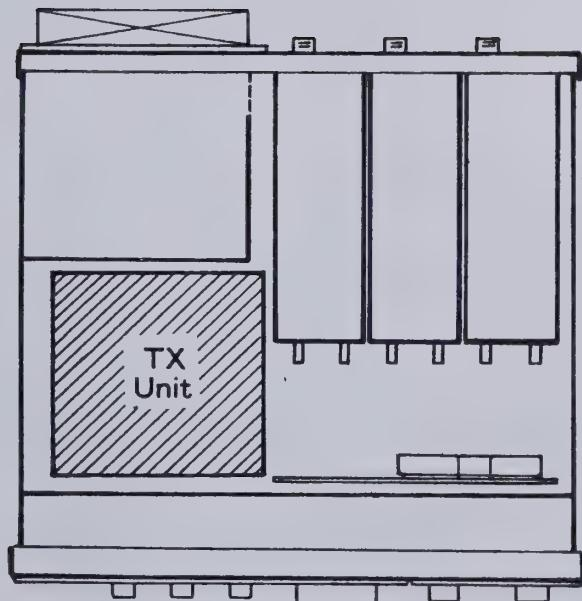

Figure 1
2. In the front lefthand corner of the transceiver, locate the TX Unit, as shown in Figure 1. Now referring to Figure 2, locate plugs  $P_{25}$  and  $P_{29}$  taped to the TX Unit (illustrated with dotted lines below). Also locate plugs  $P_{27}$ ,  $P_{30}$  and  $P_{205}$  taped to the inner chassis shield, and  $P_{28}$  taped to the left side chassis (also illustrated with dotted lines).